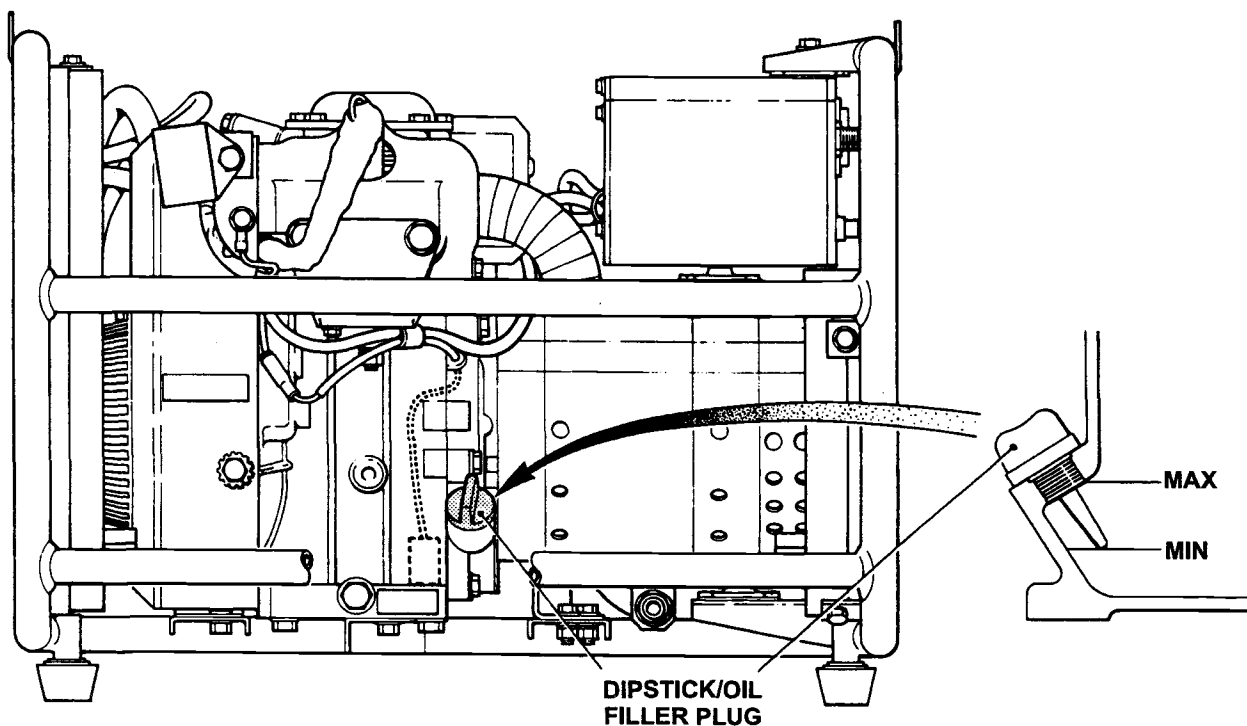

Fig 5 Engine oil levels
- 9.4 Check where the oil level is in relation to the maximum and minimum requirements shown in Fig 5 and, if necessary, top up using the approved oil type (Chap 3, Table 3).